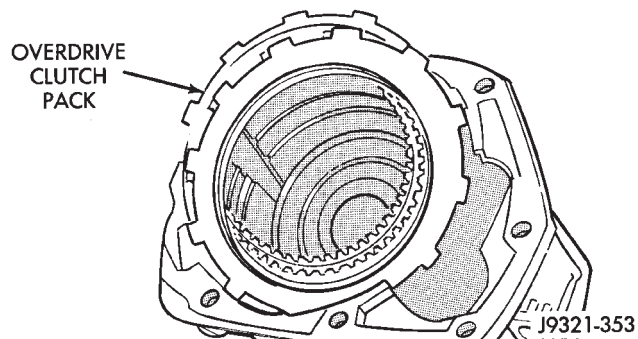

Fig. 197 Overdrive Clutch Pack Removal
- (2) Remove overdrive clutch pack (Fig. 197).